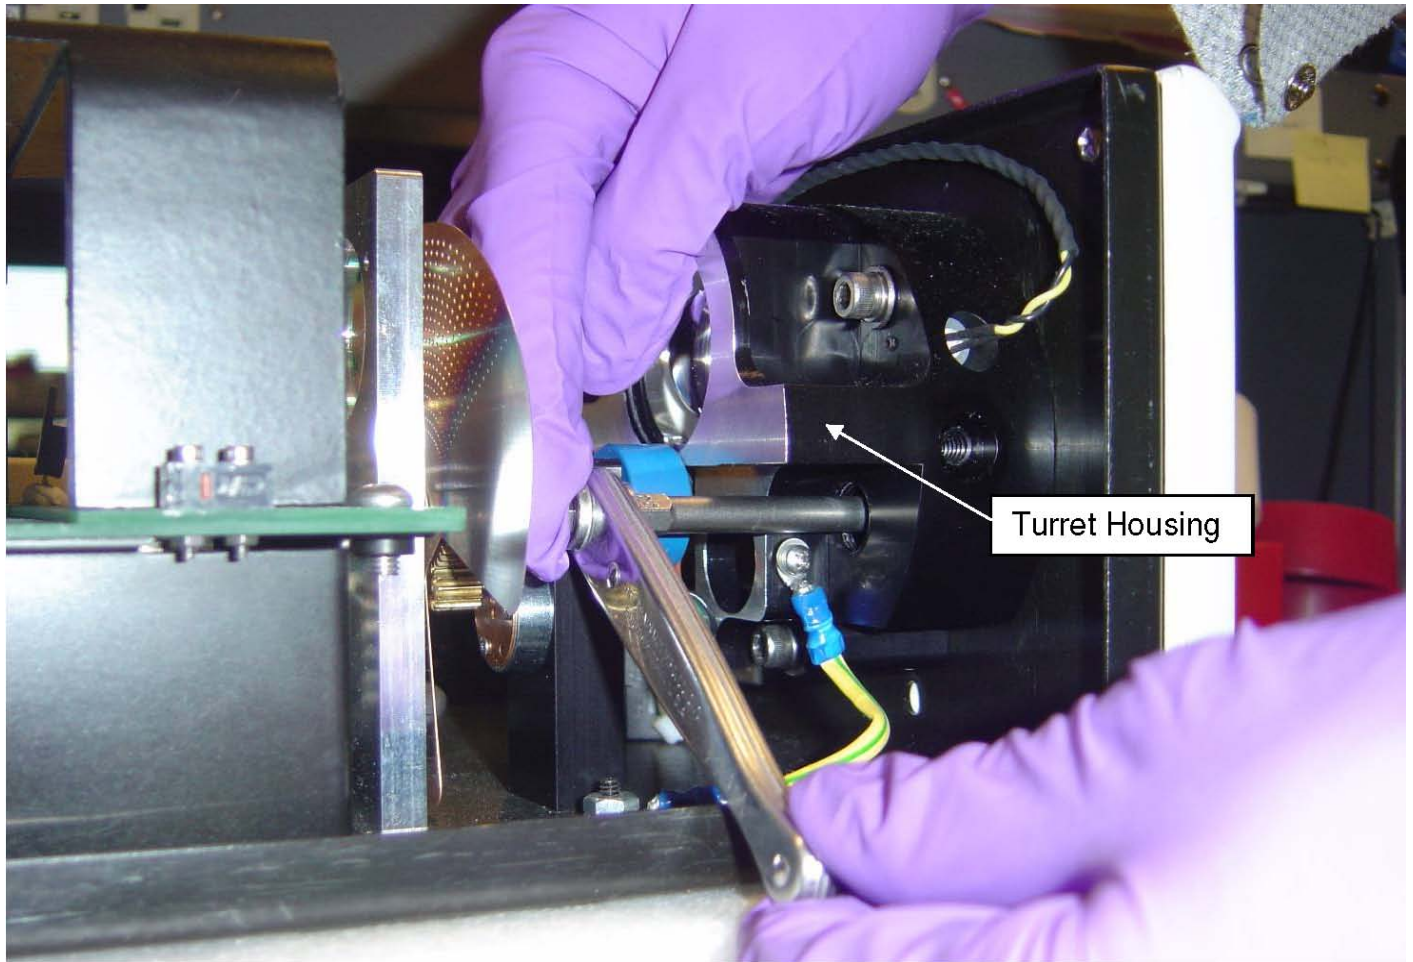

Figure 10
- 1 Remove the 10-32 screw securing the turret disk to the turret housing – Figure 10.